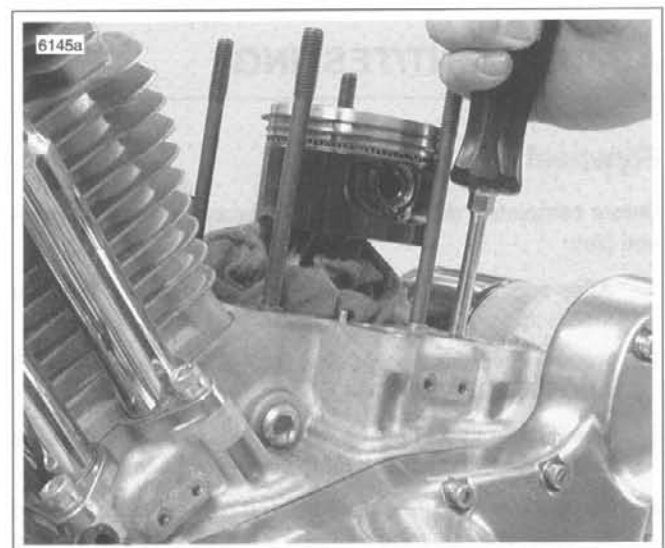

Figure 3-92. Checking Cam Gear End Play
6. See Figure 3-92. Check cam gear end play for each cam gear as follows: